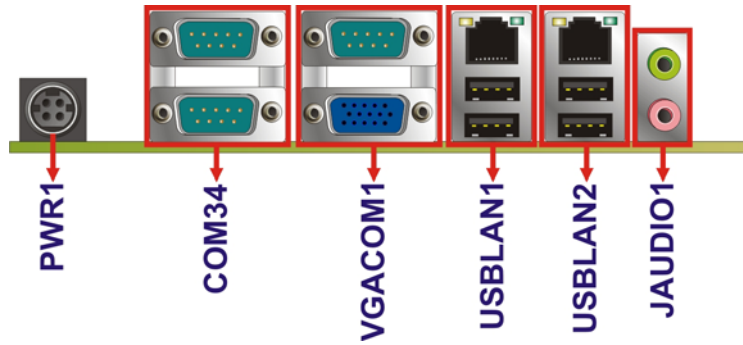

Figure 3-25: KINO-PV-D5252/D4252 External Peripheral Interface Connector
Figure 3-25 shows the KINO-PV-D5252/D4252 external peripheral interface connector (EPIC) panel. The KINO-PV-D5252/D4252 EPIC panel consists of the following:
- CN Location:** See **Figure 3-25**
- CN Location:** **Figure 3-25**
CN Location: See **Figure 3-25**